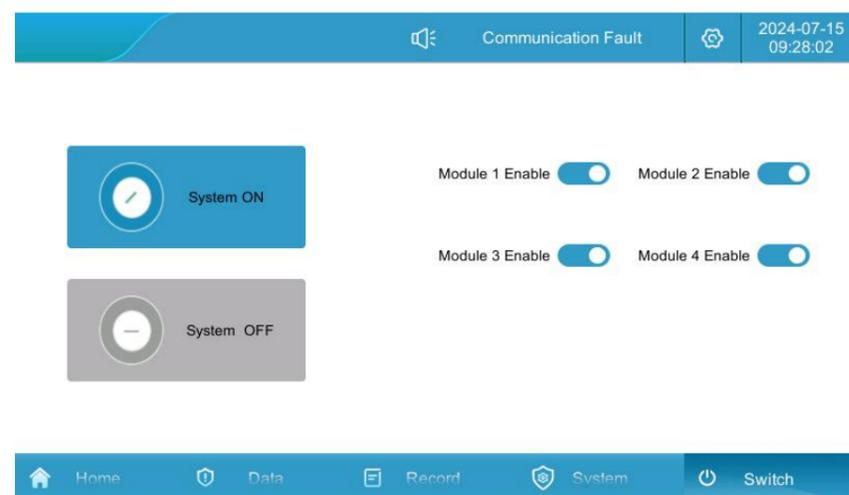

Figure 5.2-2 On-off interface
6. Converter off: When the converter is running, click "Converter Off", as shown in Figure 5.2-2;